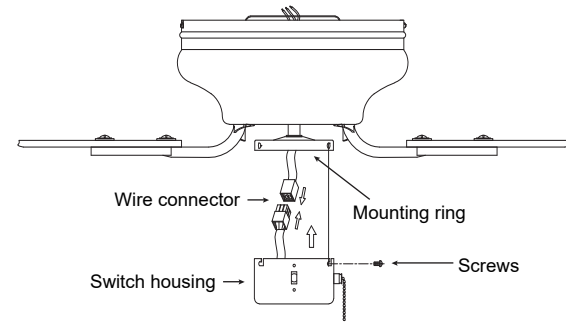

Fig. 11
Step 1. While holding the switch housing under your ceiling fan, push the square wire connectors together. One from the fan and one from the switch housing (**Fig. 11**).
Step 2. Carefully push all the wires into the switch housing. Attach the switch housing to the mounting ring with the screws provided. Make sure each screw is tight (**Fig. 11**).